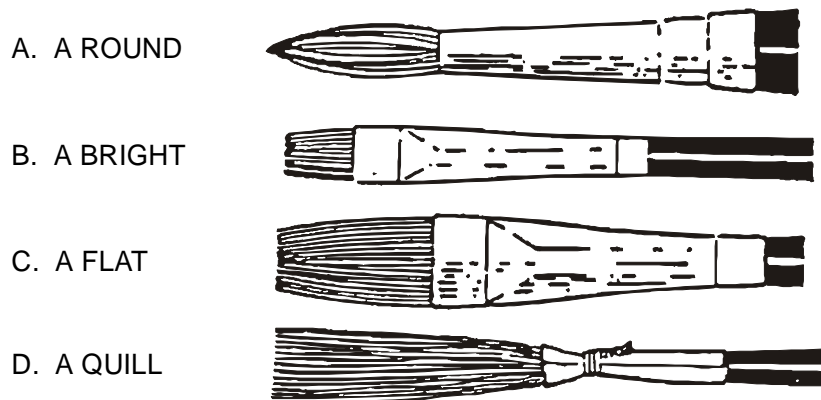

Figure D-7. Brush shapes.
(1) The hairs, ferrule, and handle are the three major parts of brushes. Round, bright, and flat are the three brush shapes used for lettering (see Figure D-7).